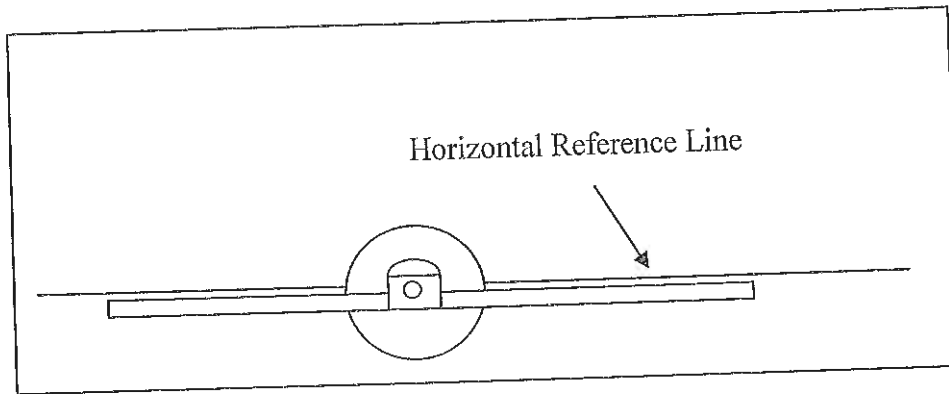

Figure 8.1: Equipment Setup
1. Hang the balance beam from the pivot as shown in Fig.8.1. Use the inclined plane as a level and straight edge to draw a horizontal reference line. Adjust the position of the balance beam in the pivot so that the beam balances horizontally.